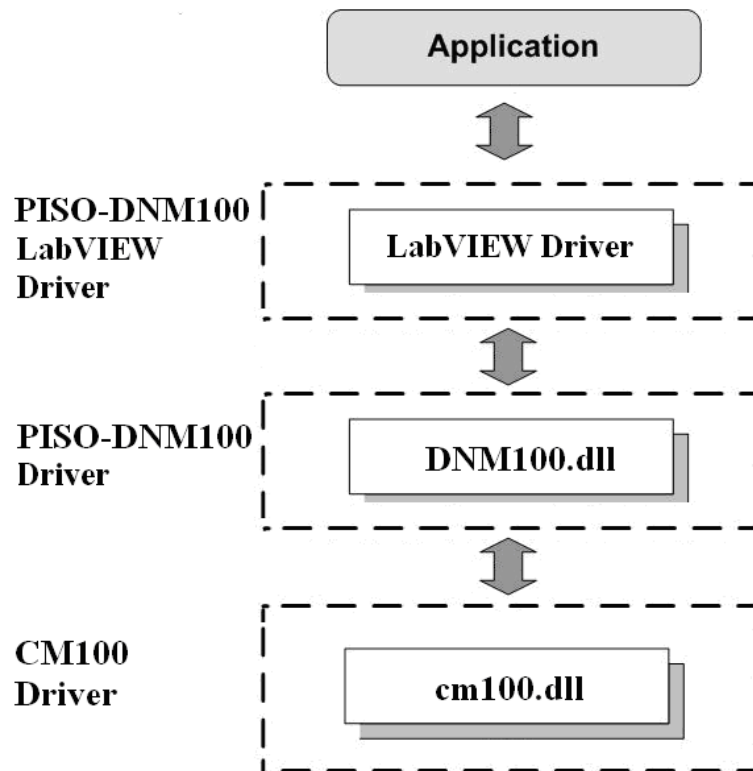

Figure 6.1 Driver concept of PISO-DNM100(U) LabVIEW driver
The PISO-DNM100(U) LabVIEW 8.x driver is the PISO-DNM100(U) function reference for the DeviceNet master device used on LabVIEW 8.x environment on Windows. Before users use this driver to develop the machine control system, the PISO-DNM100(U) driver must be installed first, because the PISO-DNM100(U) LabVIEW 8.x driver needs to call the function of it. The driver architecture is shown as Figure 6.1.